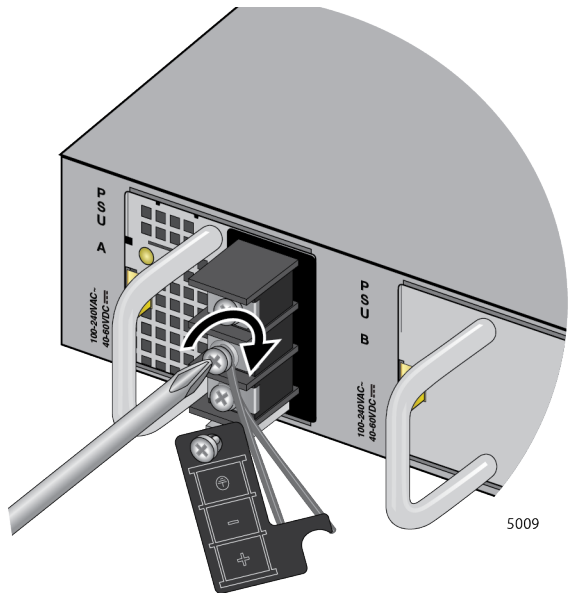

Figure 68. Tightening the Screw for the Negative (-)
4. Wind the power wire and tighten the screw. Refer to Figure 68.